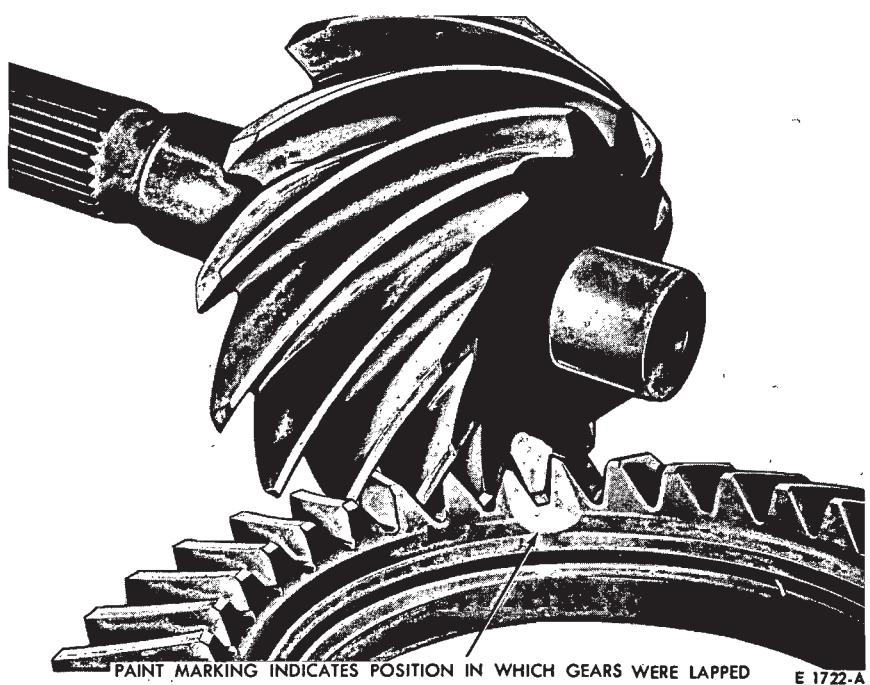

FIG. 50—Gear Set Timing Marks
9. Place the cups on the bearings. If the gear set is of the **non-hunting** or **partial non-hunting** type, assemble the differential case and ring gear assembly in the carrier so that the marked tooth on the pinion indexes between the marked teeth on the ring gear as shown in Fig. 50.